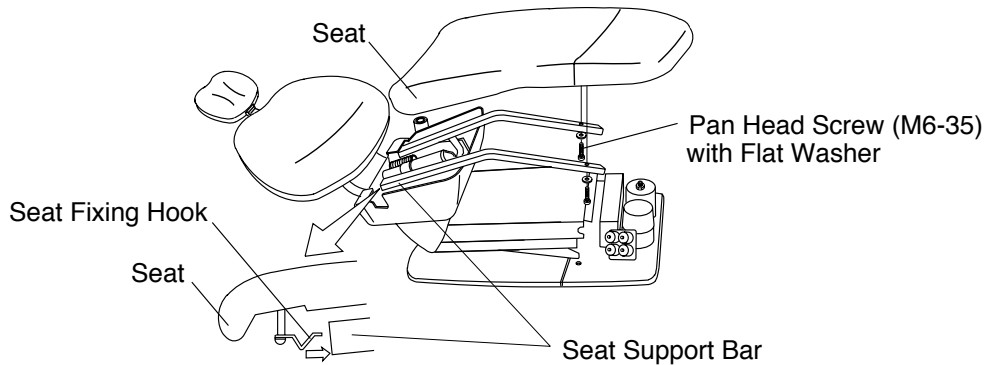

Fig.3-7-5 Fixing Seat
(8) Fix the seat to the base section. **(Fig.3-7-5)**